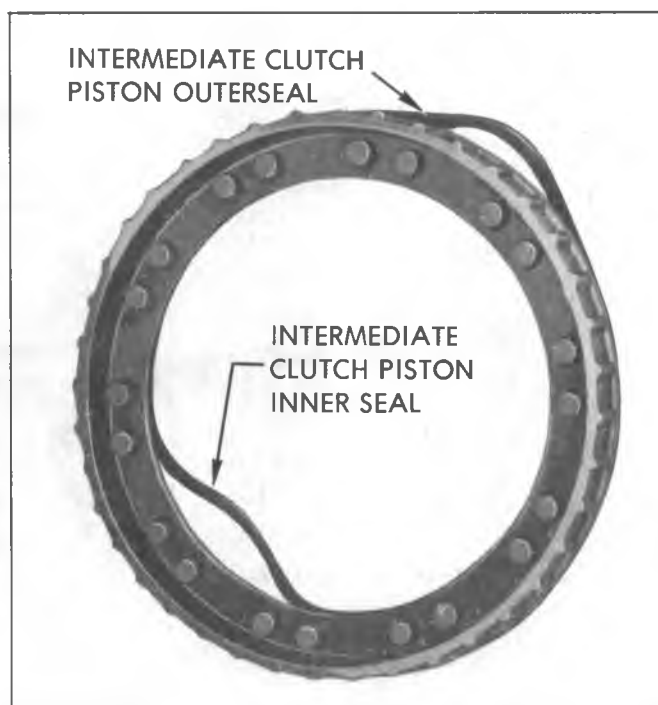

Fig. 58M--Removing Intermediate Clutch Piston Inner and Outer Seal
4. Remove intermediate clutch piston inner and outer seal (fig. 58M).